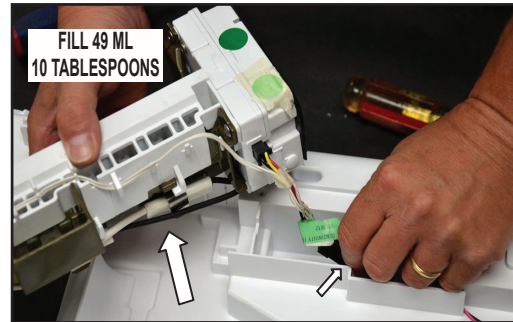

FIGURE 37
11. Lift out ice maker and disconnect the wire harness. See *Figure 37*.